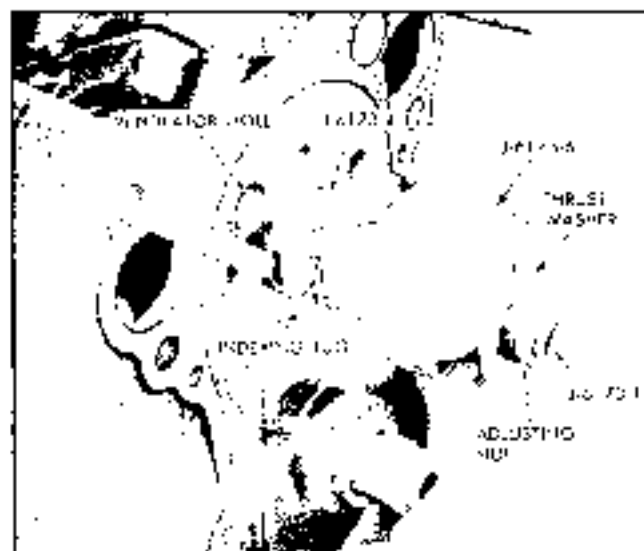

Fig. 6-97 Positioning Index Collar
1. Insert remover adapter J 6173-4 into front bearing to act as a support for shaft J 6173-1 (Fig. 6-97).
3. Place indexing collar J 6073-6 on threaded end of shaft with open side toward unthreaded end and start thrust washer and nut on shaft (Fig. 6-97).
4. Insert shaft and indexing collar through remover and replacer adapters and position lug on indexing collar in ventilator hole in front of block (Fig. 6-97). This indexes shaft so that it cannot rotate.
6. Insert shaft with indexing collar, thrust washer, and nut through remover, pilot and replacer adapters. Index lug on collar with ventilator hole in front of block (Fig. 6-97).